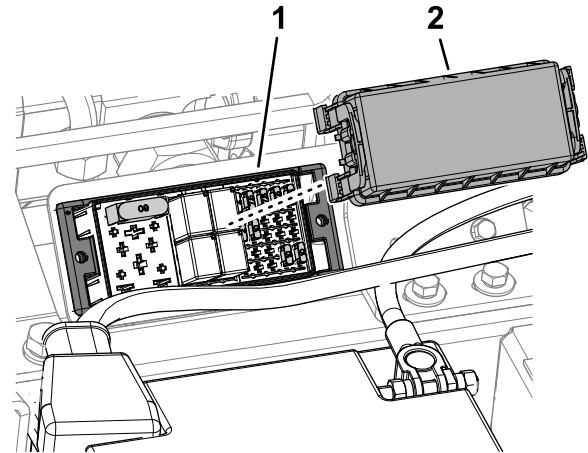

Figure 60
2. Remove the fuse-block cover (Figure 60)
5. Install the fuse-block cover (Figure 60).